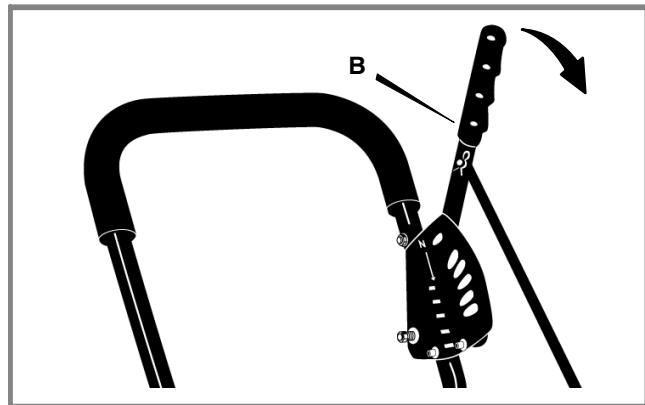

Figure 16: Clutch / Depth Control Lever
- 2 To engage the blade, push the lever (B) forward (see Figure 16).